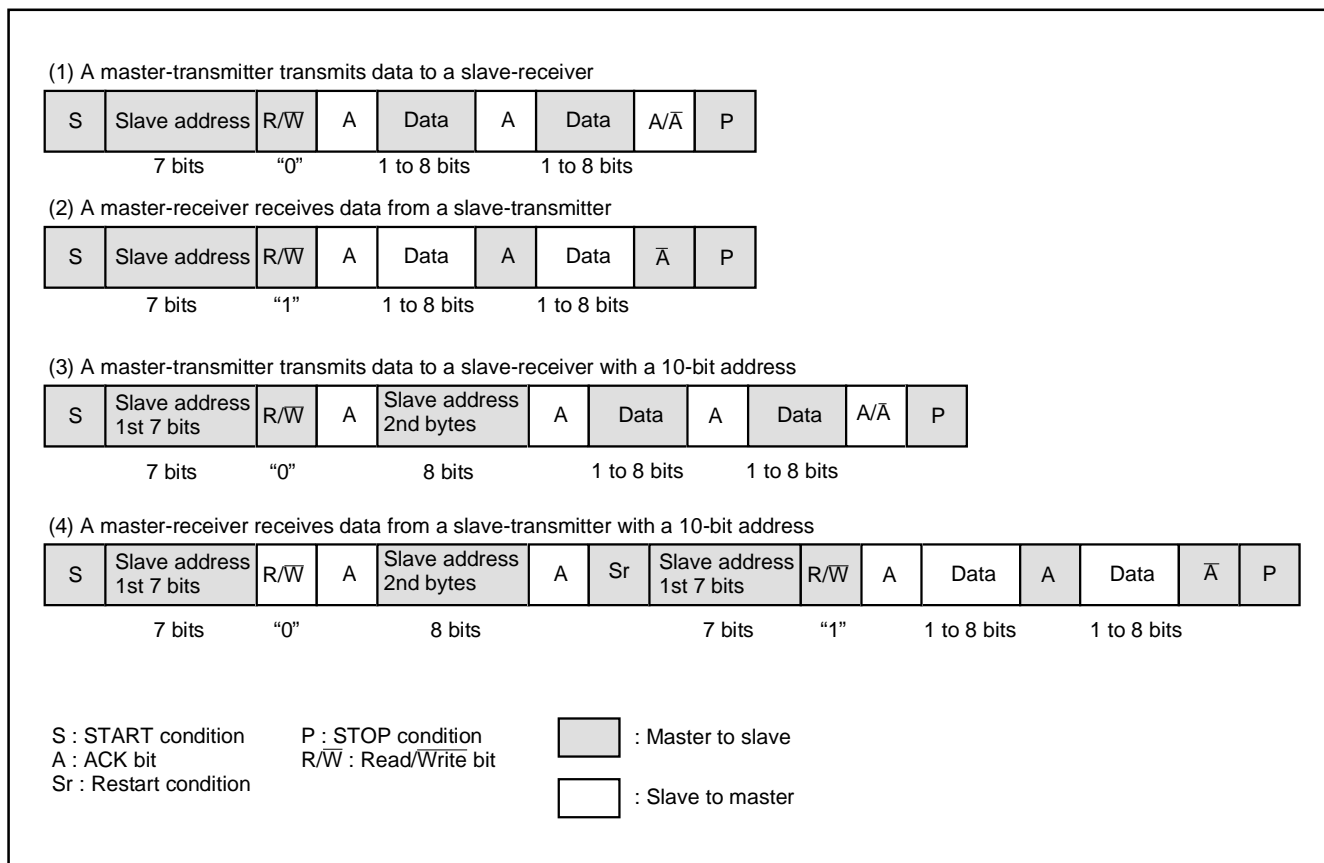

Fig. 69 Address data communication format
① 7-bit addressing format
To adapt the 7-bit addressing format, set the 10BIT SAD bit of the I²C control register (S1D: address 0014₁₆) to "0". The first 7-bit address data transmitted from the master is compared with the high-order 7-bit slave address stored in the I²C slave address register. At the time of this comparison, address comparison of the RWB bit of the I²C slave address register is not performed. For the data transmission format when the 7-bit addressing format is selected, refer to Figure 69, (1) and (2).
② 10-bit addressing format
When the first-byte address data agree with the slave address, the AAS bit of the I²C status register (S1: address 0013₁₆) is set to "1." After the second-byte address data is stored into the I²C data shift register (S0: address 0011₁₆), perform an address comparison between the second-byte data and the slave address by software. When the address data of the 2 bytes agree with the slave address, set the RWB bit of the I²C slave address register to "1" by software. This processing can make the 7-bit slave address and R \bar{W} data agree, which are received after a RESTART condition is detected, with the value of the I²C slave address register. For the data transmission format when the 10-bit addressing format is selected, refer to Figure 69, (3) and (4).